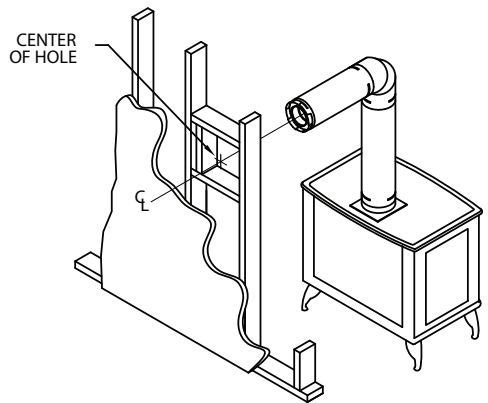

Figure 6
(2) Horizontal runs of vent pipe must be supported to prevent any downward sags. Horizontal pipe sections should be supported at least every 4-feet. Wall Straps can be used for this purpose. Alternatively, plumbers tape or other suitable noncombustible material can be used to support the vent pipe.
(3) DirectVent Pro venting requires no sealant, unless specifically required by appliance manufacturer.
**Step 3.** With the Appliance Adaptor and Pipe Section attached to the appliance, slide the appliance into its correct location, and mark the wall for a square hole of the appropriate size. Refer to **Table 1, page 8** for the correct size square opening unless otherwise specified by the appliance manufacturer's clearance requirements. The centerline of the pipe should line up with the center of the square hole (**Fig. 6**). Cut and frame the square hole in the exterior wall where the vent will be terminated. A Wall Thimble or Wall Firestop may be required by the appliance manufacturer as additional thermal protection for the wall. If the wall being penetrated is constructed of noncombustible material only, i.e. masonry block, brick, or concrete only, a hole with zero clearance to the vent